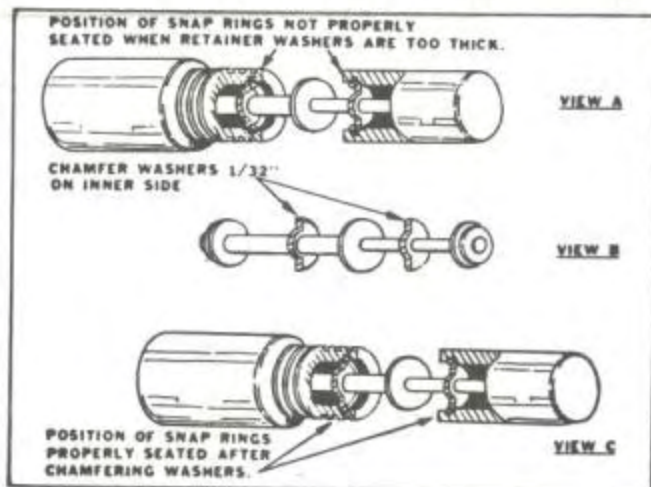

Fig. 4
2. File a 1/32" chamfer on the inner side of retaining washers. See Fig. 4, View B.
3. Reassemble the rod and retainer, making certain that the snap rings and washers are properly seated (See Fig. 4, View C).